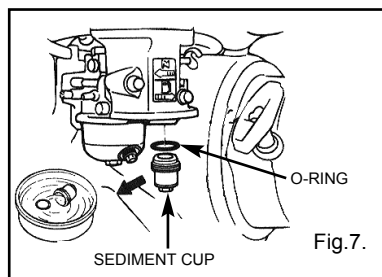

Fig.7.
4.4. CLEANING THE SEDIMENT CUP - Fig.7.